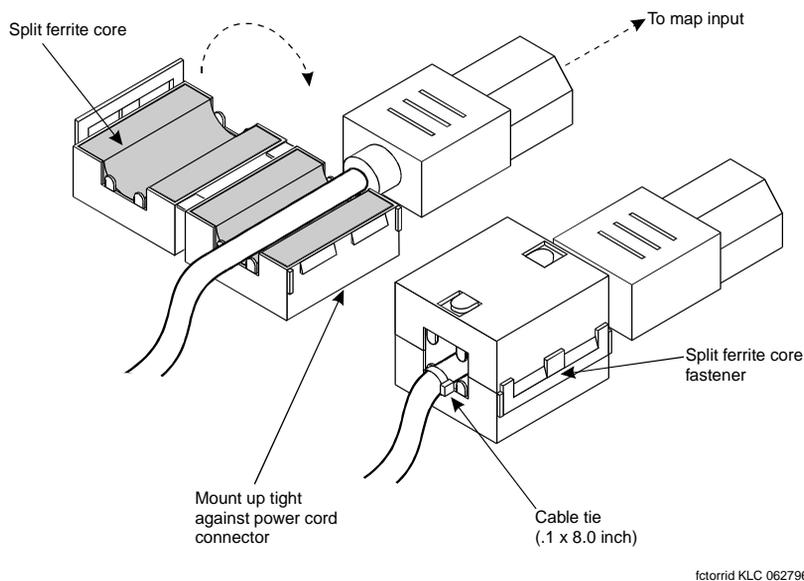

Figure 4-2. Example Ferrite (Type B) Installation
2. Place the cord or cable in the groove inside the ferrite (Figure 4-2 on page 4-4).